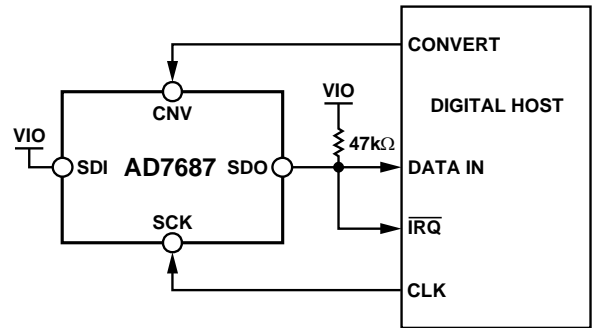
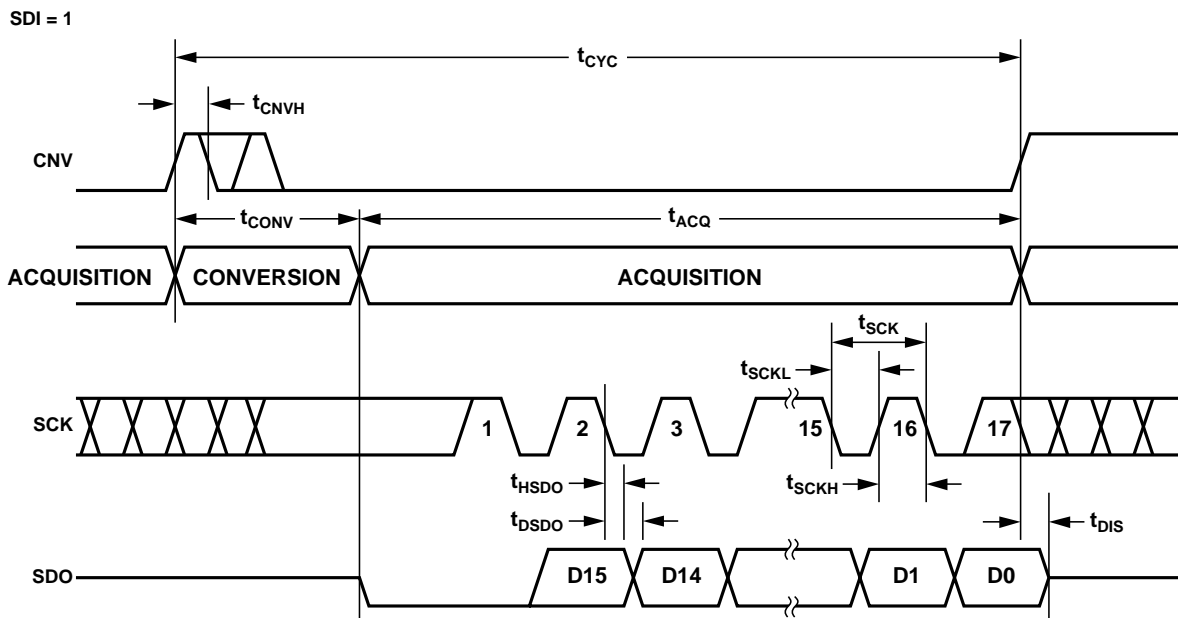
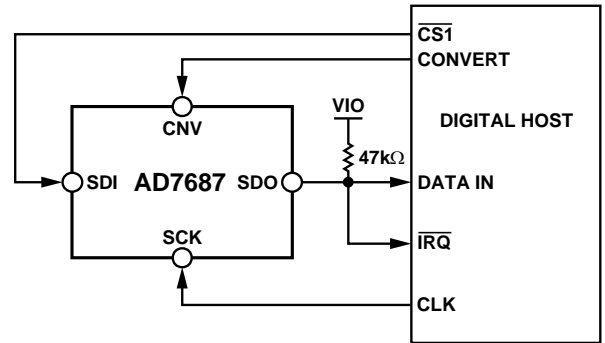
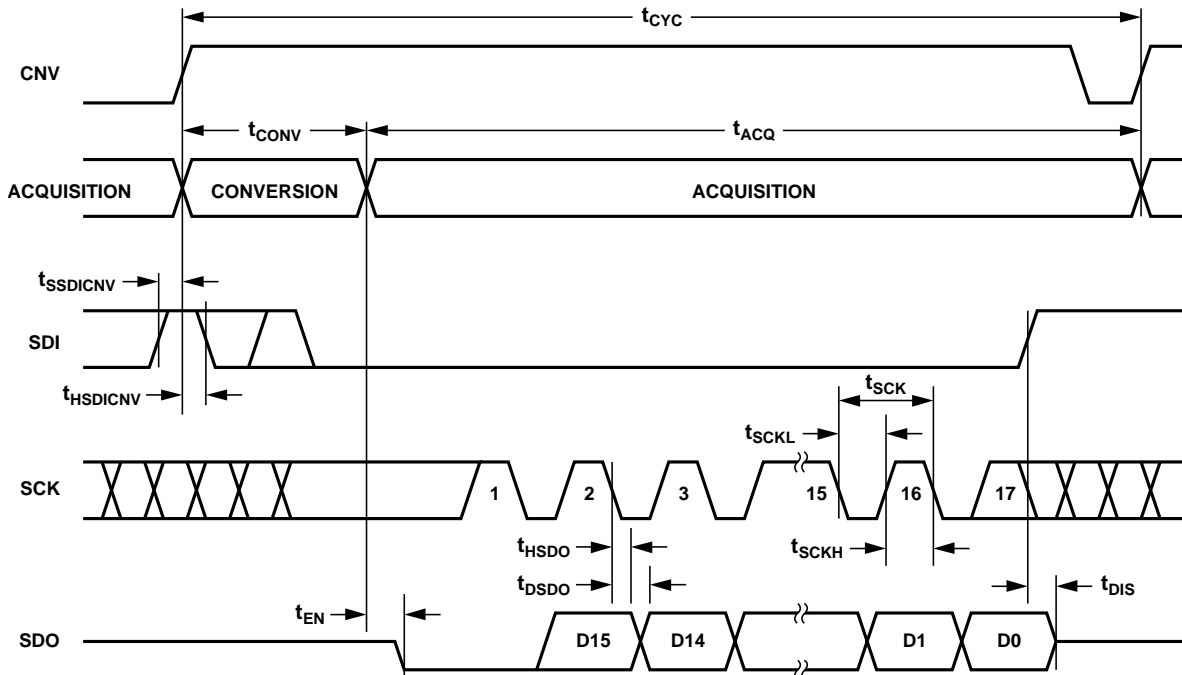

Figure 37.  $\overline{\text{CS}}$  Mode 3-Wire with BUSY Indicator Connection Diagram (SDI High)
Figure 38.  $\overline{\text{CS}}$  Mode 3-Wire with BUSY Indicator Serial Interface Timing (SDI High)
Figure 41.  $\overline{CS}$  Mode 4-Wire with BUSY Indicator Connection Diagram
Figure 42.  $\overline{CS}$  Mode 4-Wire with BUSY Indicator Serial Interface Timing
- In the  $\overline{CS}$  mode, if  $\overline{CNV}$  or SDI is low when the ADC conversion ends (Figure 38 and Figure 42).
The connection diagram is shown in Figure 37 and the corresponding timing is given in Figure 38.
The connection diagram is shown in Figure 41 and the corresponding timing is given in Figure 42.